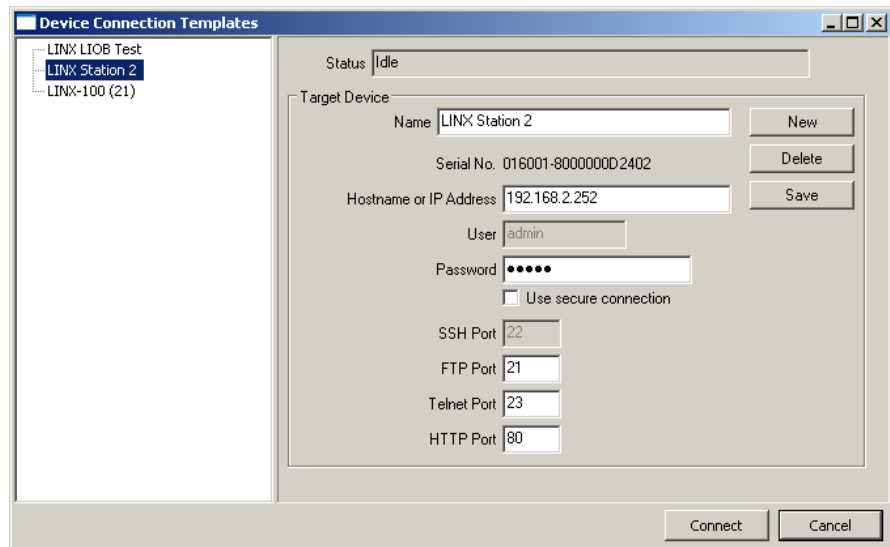

Figure 290: FTP connection dialog.
2. Select the menu: **Connection → Connect via FTP**. This opens the FTP connection dialog as shown in Figure 290.